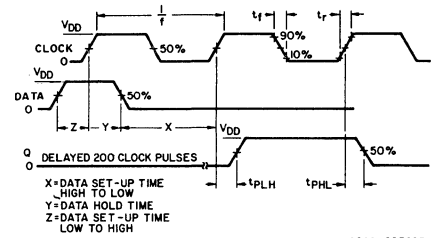

Fig. 3 — Timing diagram—single-phase clock.
Single-Phase-Clock Operation; Clock Mode (CM) \approx Low; $3\text{ V} \leq V_{DD} \leq 10\text{ V}$ (See Figure 3)